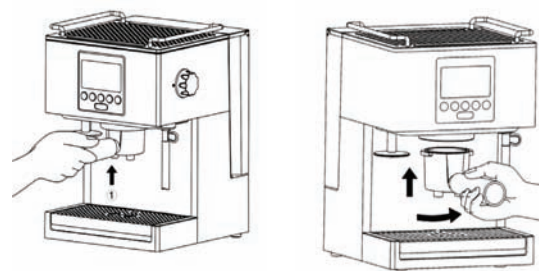

Fig. 3
- 6.1.3. Attach the empty filter handle (7) to the brew head (5), by turning it with a firm motion to the right (Fig. 3).
- 11.10. Attach filter handle (7) to the brew head (5), by turning it with a firm motion to the right (Fig. 3).
- 12.10. Attach filter handle (7) to the brew head (5), by turning it with a firm motion to the right (Fig. 3).
- 13.10. Attach filter handle (7) to the brew head (5), by turning it with a firm motion to the right (Fig. 3).